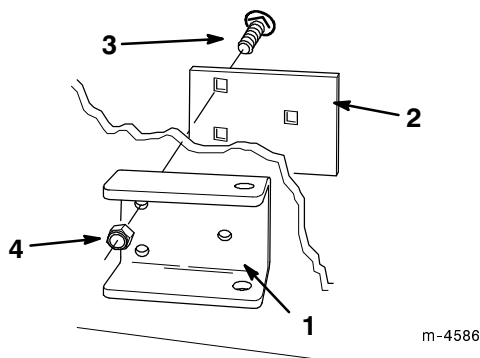

Figure 4
5. Secure the side bar bracket to the side of the traction unit using the back-plate, three carriage bolts, and three nuts (Fig. 4).